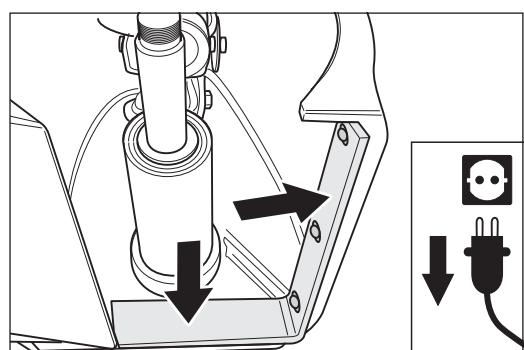

Fig. 47 Ensure that the sealing felt is not worn or damaged!
- Ensure that the sealing felt is not worn or damaged (Fig. 47)!